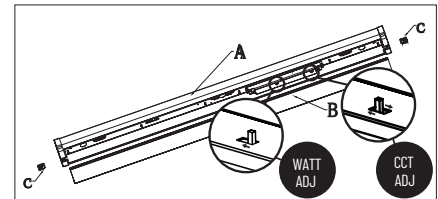

Figure 1
- b. Remove diffuser, slide small lid (PART C) out of the end cap of lamp base (PART A), then take out the diffuser (PART B). (Figure 1)
- c. CCT adjustment 3500/4000/5000K CCT (pre-set to 4000K). Wattage adjustment base on fixture size, 3 choices (pre-set to highest wattage). (Figure 1)